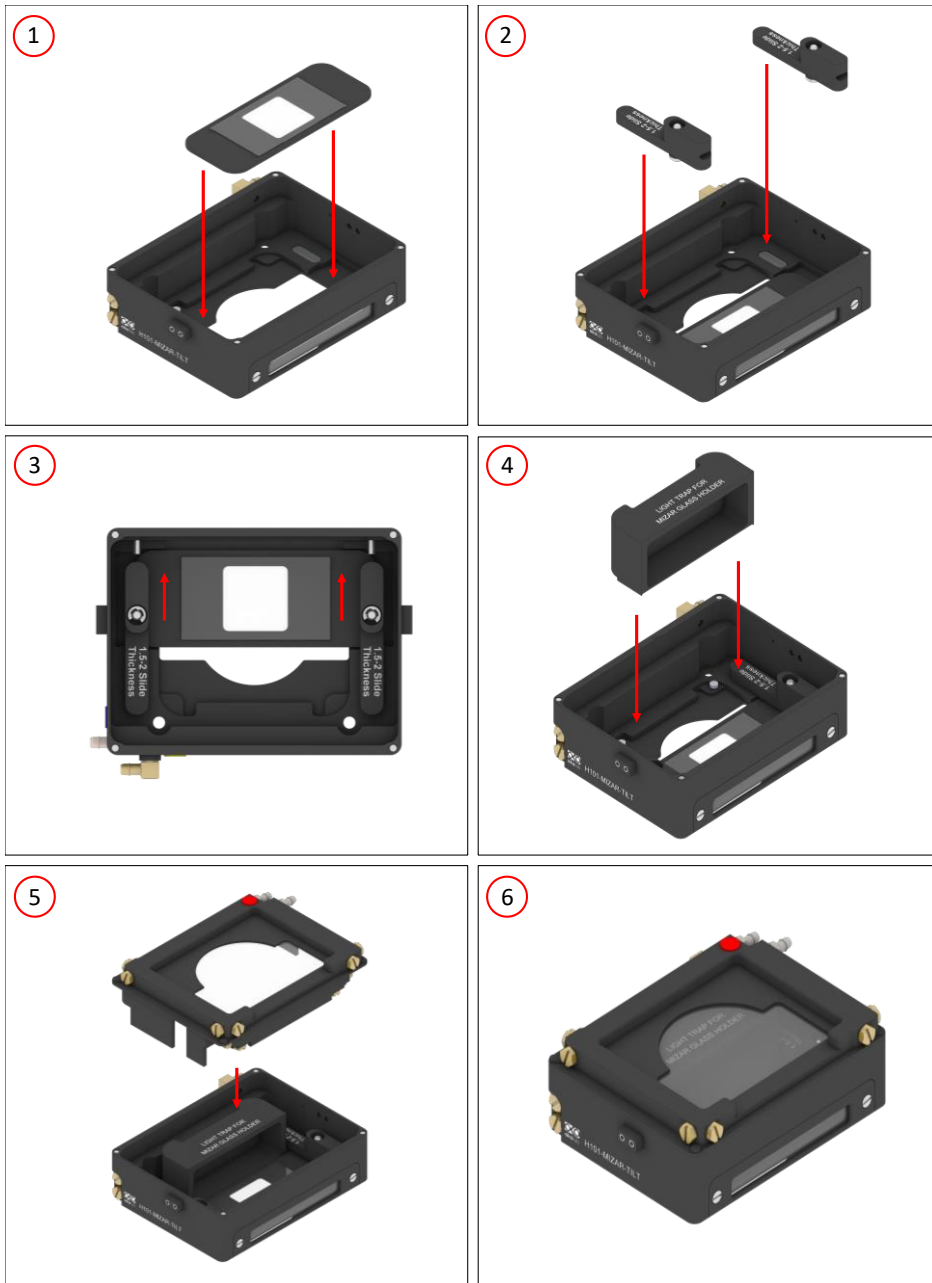

Figure 7. Working with MIZAR-1x22by40
The MIZAR-1x22by40 fits into the Chamber Base and it is held in place by the magnetic clamps in order to prevent movement inside the opening on the base. To insert the MIZAR-1x22by40, follow the steps shown in Figure 7 and listed below:
1. Insert the MIZAR-1x22by40 into the Chamber Base (see image 1 in Figure 7).
2. Place the magnetic clamps over the insert (see image 2 in Figure 7), then push down the head of the clamps simultaneously and move it in the direction shown in the image 3 of Figure 7.
3. Insert the Light Trap into the Chamber Base as shown in image 4 in Figure 7.
4. Close the Chamber Base with the Lid (see image 5 and 6 in Figure 7).